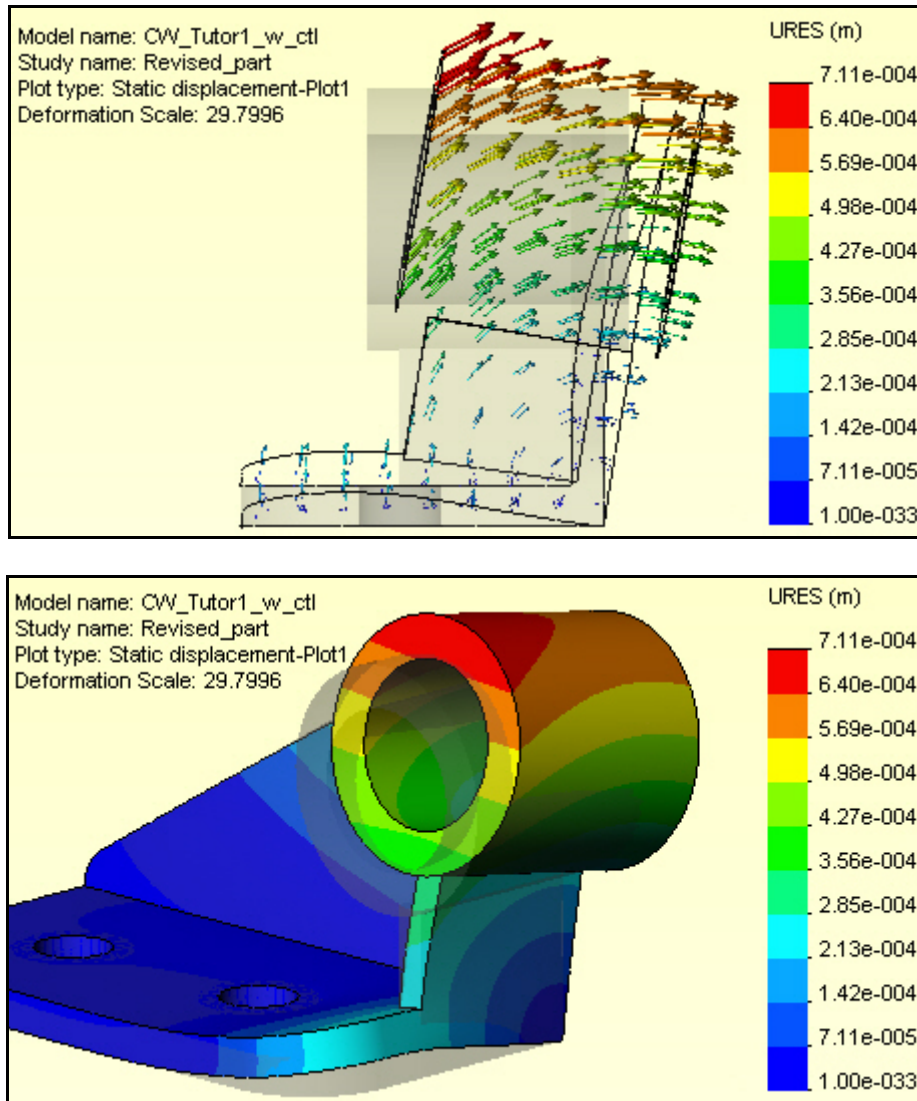

Figure 16 Amplified part displacements
The displacements are shown amplified in Figure 16 along with the gray undeformed part. As with the first approximation, the main bending region is the rounded front corner of the base plate. The mesh there is now fine enough to describe the flexural stress and shear stress as they change through the thickness. The default contour plot style for viewing the displacements is a continuous color variation. These are pretty and should be used at some point in a written stress analysis report, but they tend to hide some useful engineering checks. To create a more informative displacement vector plot:
2. Rotate this view (hold down the center mouse button and move the mouse) to find the most informative orientation. That is probably the right side view seen in the top of Figure 16.
3. Next, convert to a discrete contour display of the magnitude of the displacement vector (bottom of Figure 16). It is more difficult to interpret than vector plots.